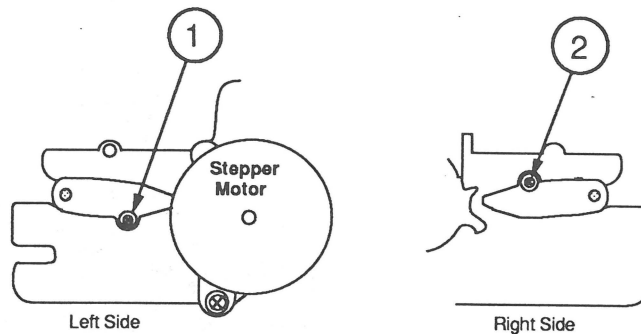

FIGURE 50
2. Hold the tractor assembly in place and turn the printer so the stepper motor is facing you. Replace the screw (Figure 50, #1) that holds the tractor assembly to the frame.
3. Turn the printer to the right side and replace the screw (Figure 50, #2) that holds the tractor assembly to the frame.